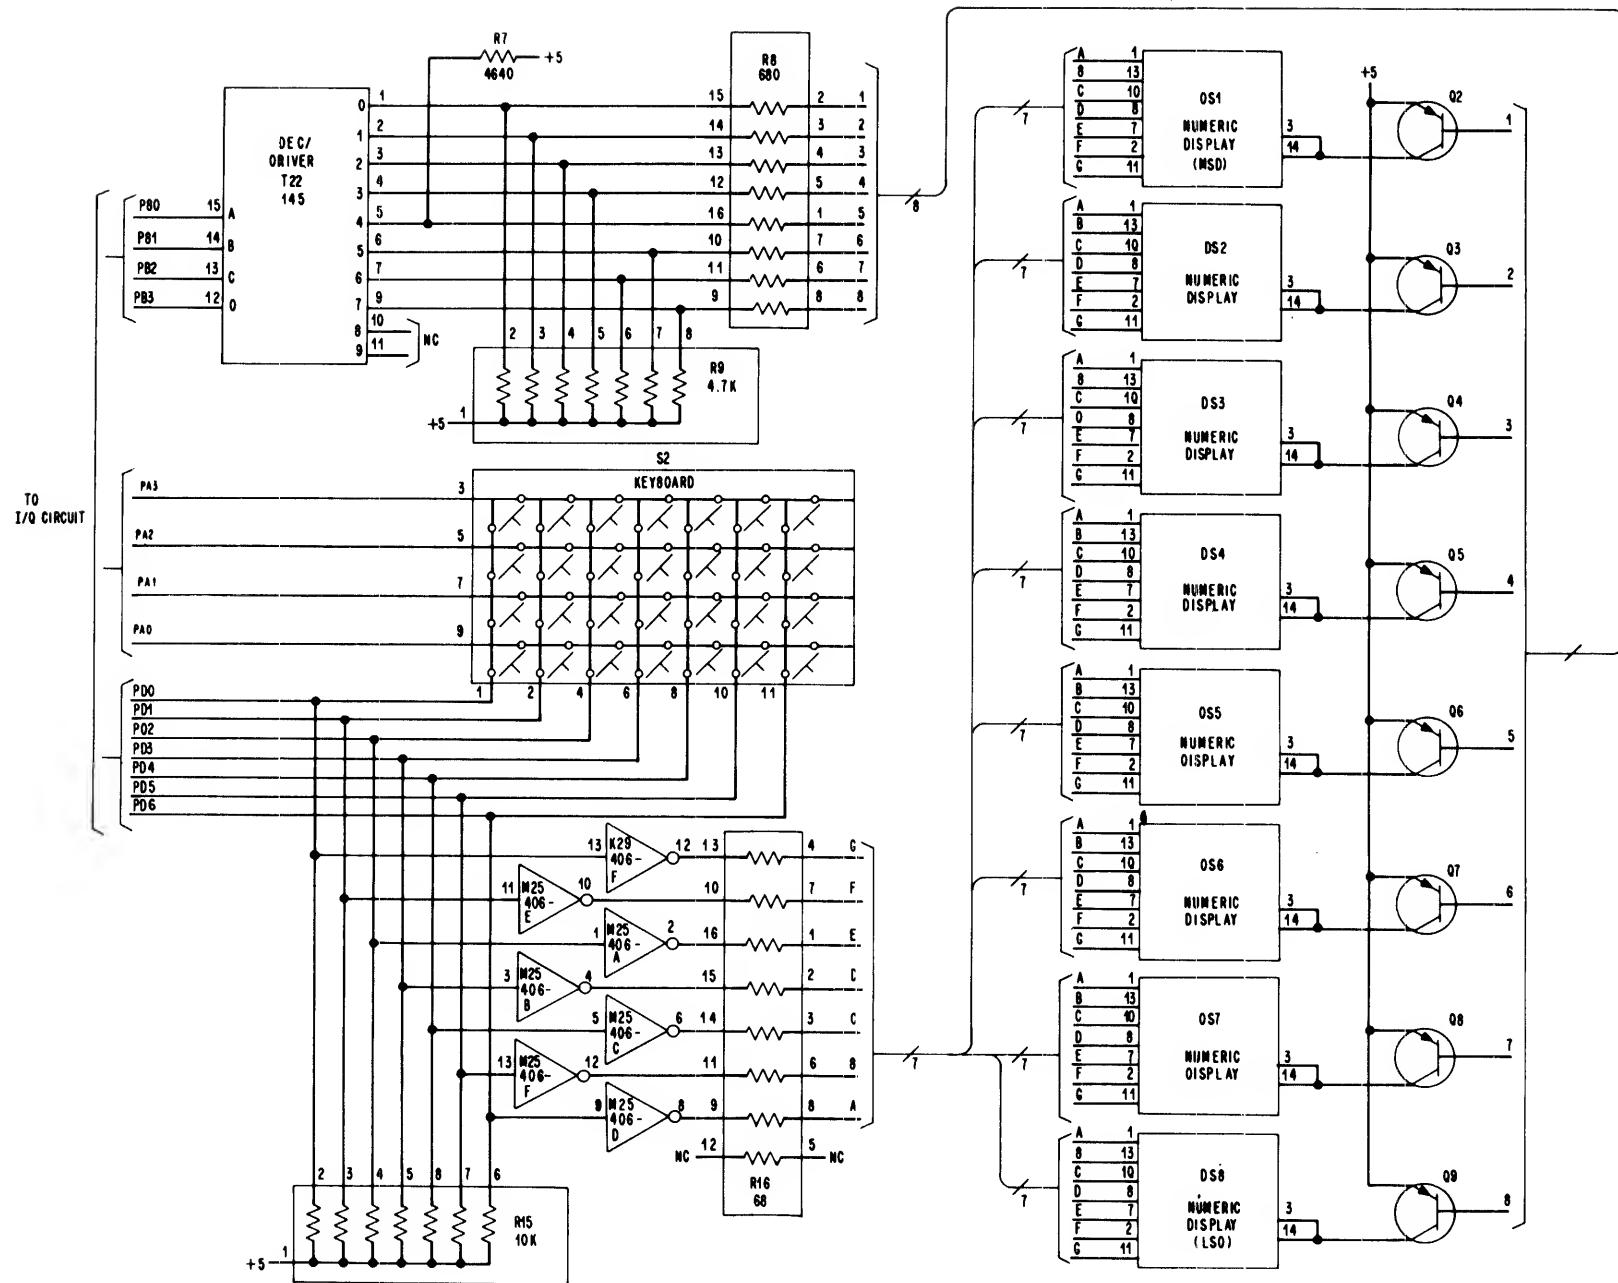

Figure 2-5. Keypad and Display Schematic Diagram
2.2.4 Keypad (See Figure 2-5.)